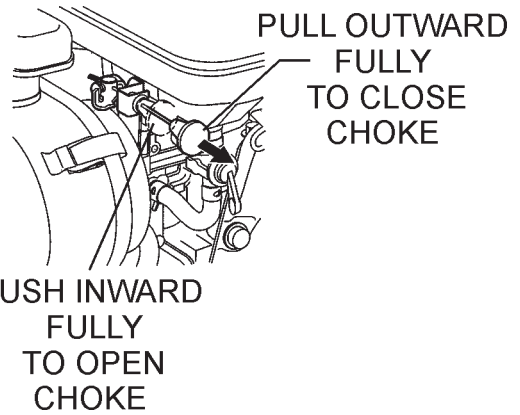

Figure 13. Engine Choke Lever (Closed)
3. Place the **choke lever** (Figure 13) in the "**CLOSED**" position if starting a **cold** engine, if starting a **warm engine** or the **temperature is warm**, place the **choke lever** in the "**OPEN**" position
7. If the engine is running properly, slowly return (push inward) the choke lever (Figure 13) to the “**OPEN**” position. If the engine has not started repeat steps 1 through 6.